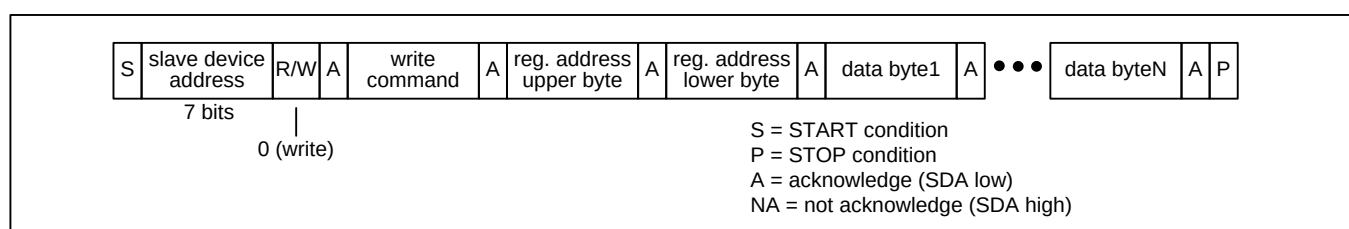

Figure 8 – I²C Register Write Transaction Functional Timing
Register Write Transactions. The device registers are accessible when $\overline{ESEL}=0$. The bus master does an I²C write to the device. The first three bytes of this transaction are the SPI Write command (see Table 3), the upper byte of the register address, and the lower byte of the register address. Subsequent bytes are data bytes to be written. After each data byte is received, the device writes the byte to the write address and then increments the write address. The bus master terminates the write with a STOP condition (P). See Figure 8.